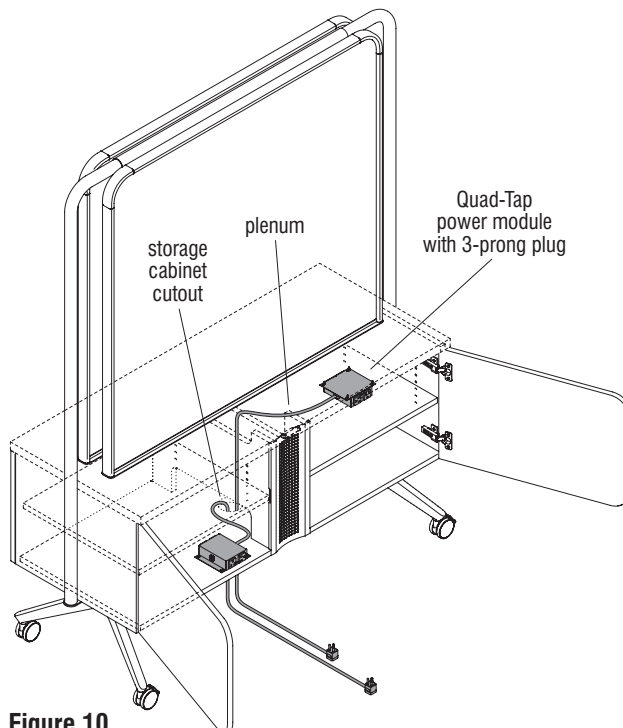

Figure 10
6. Route the power cord through the openings on the side of the plenum and down through the bottom storage cabinet cutout to an approved power source (Figure 10).